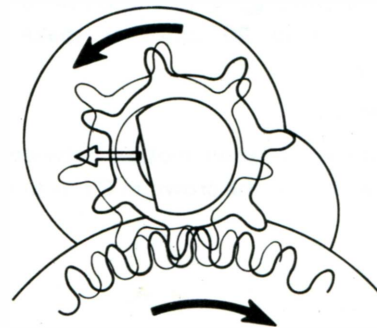

Fig. 5
- For unwinding the mainspring, wind the mainspring slightly with the crown so the click is placed in free condition. Then, remove the click from the slit of the barrel and train wheel bridge tool for testing escapement as shown in Fig. 5 and let it run idle.